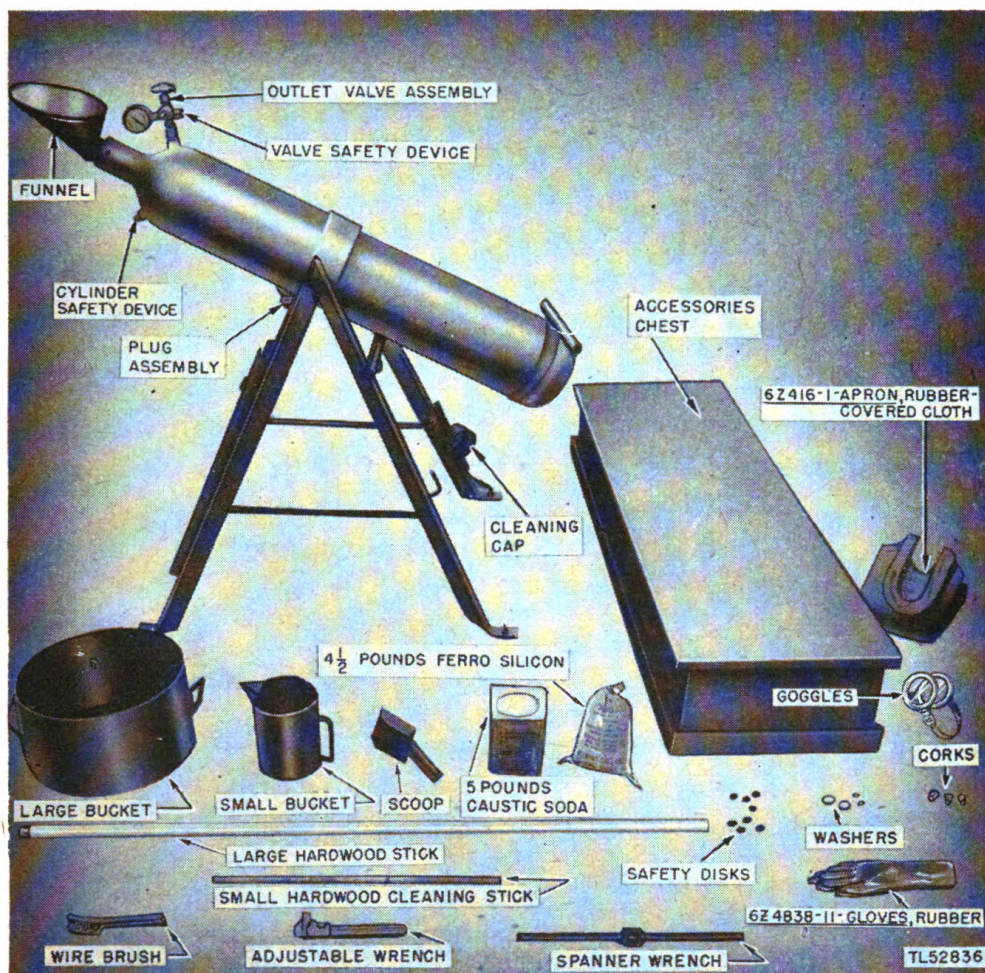

Figure 2. Generator ML-185-(\*) (Hydrogen) and accessories, assembled.
a. **CYLINDER** (FIG. 2). The cylinder is of seamless steel construction and is 56 inches long and  $9\frac{9}{16}$  inches in outside diameter.
## 7. Support Assembly (fig. 2)